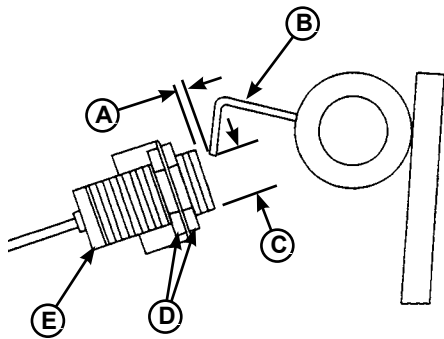

Figure 37
3. Press the RAISE push button. The dock leveler should NOT raise. If the leveler did not raise, proceed with step 4. If the leveler did raise, decrease dimension "A" or "B", Figure 37, so that the target is in the sensing range of the switch. Typical factory settings for "A" and "B" are approximately 3/4" and 1/8" respectively. Make adjustments at switch (dimension B) and/or target (dimension A) until leveler does not raise when the truck restraint is not engaged at truck trailer RIG bar.